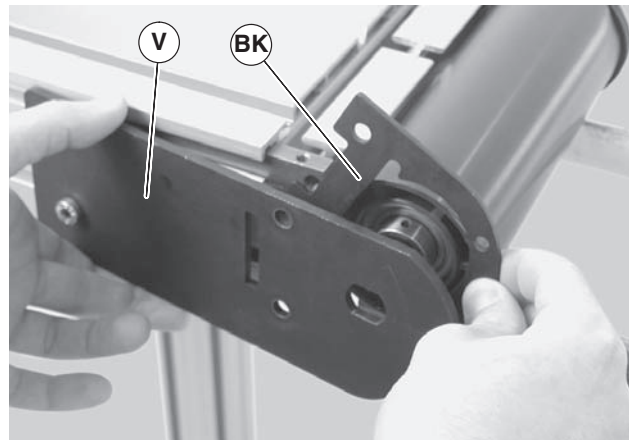

Figure 55
3. Pull back the outer headplate (Figure 55, item V) and remove the inner spacer (BK).